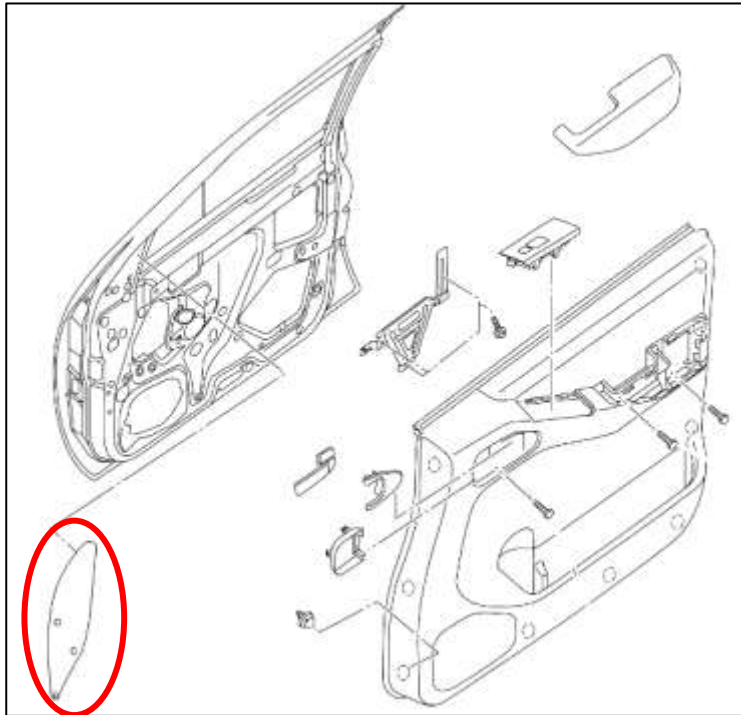

Figure 78
8. Remove the Trim Piece in the corner of the Door with a Trim Removal Tool. *Figure 78.*